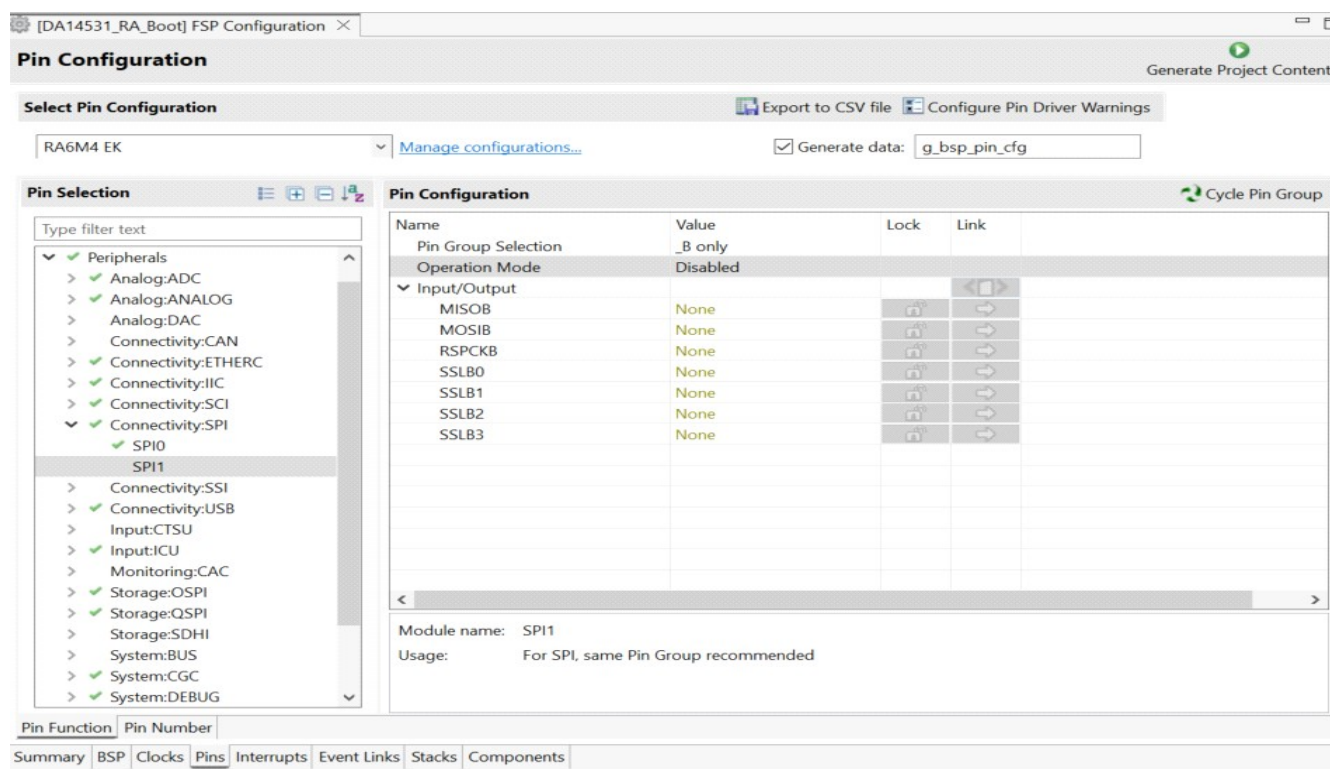

Figure 13. Pins Tab – Peripherals > Connectivity: SPI Group
13. Navigate to the **Pins** tab within the **Pins Configuration** window (see Figure 13).